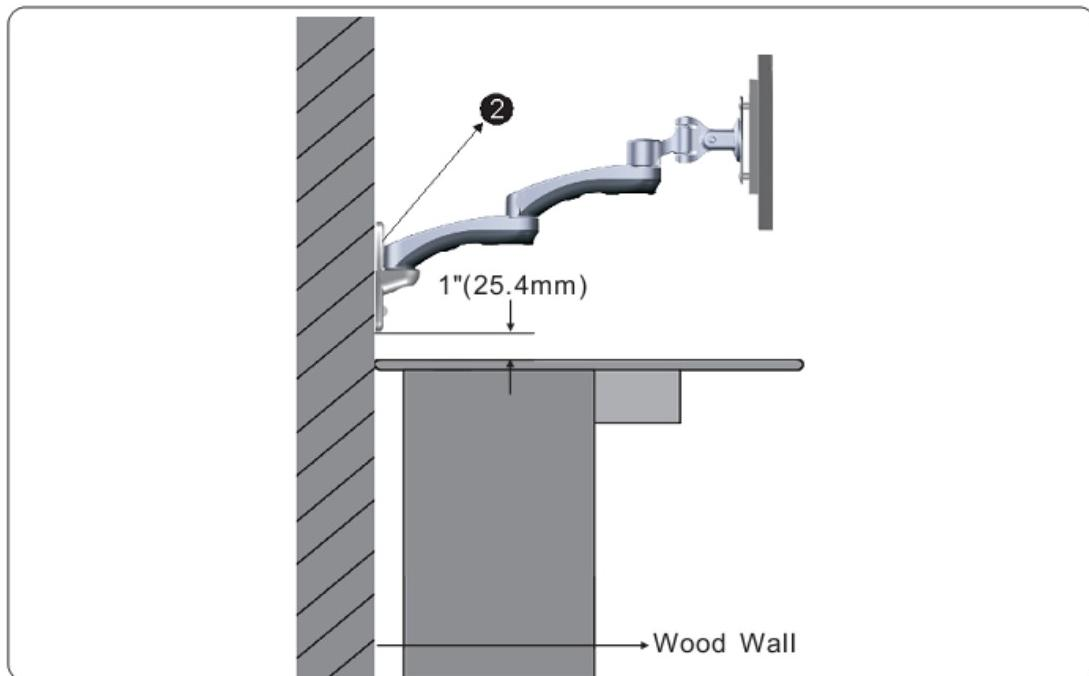

Figure 1-1
1. To determine Wall Plate (2) mounting height, add 1" (25.4mm) to the mounting height from the top of the table (See Figure 1-1).